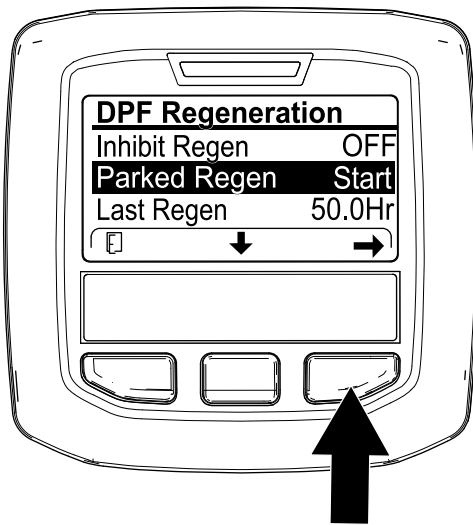

Figure 56
- Access the DPF Regeneration menu, press the center button to scroll down to either the PARKED REGEN START option or the RECOVERY REGEN START option (Figure 56), and press the right button to select the start the regeneration (Figure 56).